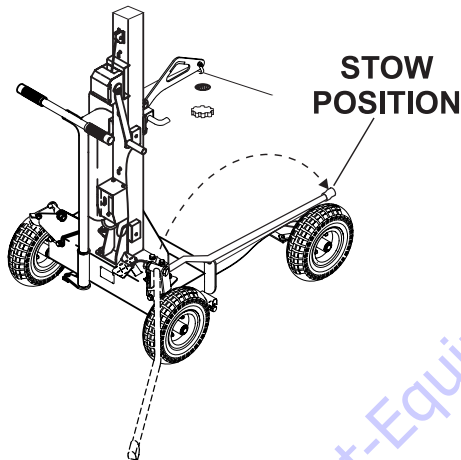

Figure 22. Outriggers (Stow Position)
7. Grab hold of outrigger, pull upward, push down and place in stow position (Figure 22).
8. Press down on the top of the brake pedal (Figure 22) and hold, then release. This action will disengage the brake mechanism and allow the GloBug to be moved.